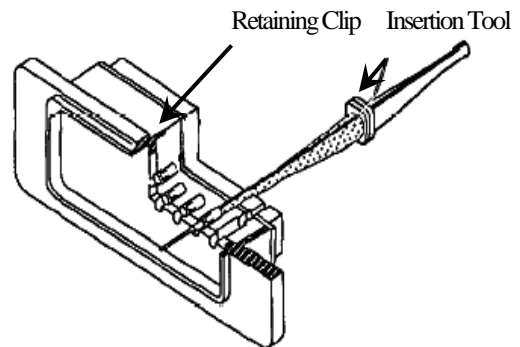

Figure 18. Contact Insertion
g. With firm even pressure, press tool against contact shoulder and seat contact into cavity (Figure 18). A slight click may be heard as retention tines snap into place behind contact shoulder.